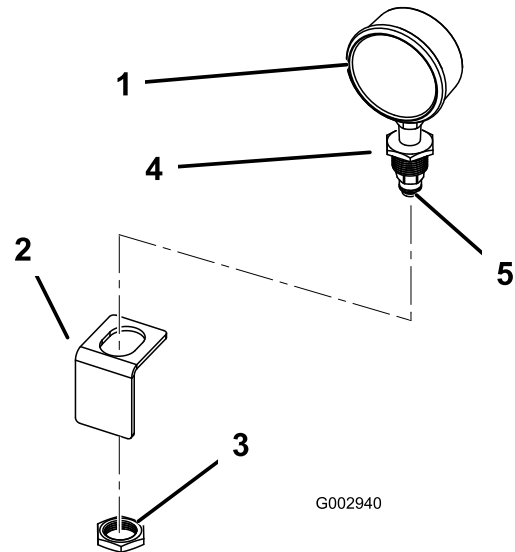

Figure 15
2. Install the black plastic fitting into the reducer fitting on the gauge (Figure 15).
3. Install the pressure gauge into the bracket under the circular opening inside the control valve cover, securing it with the nut packaged with it (Figure 15).